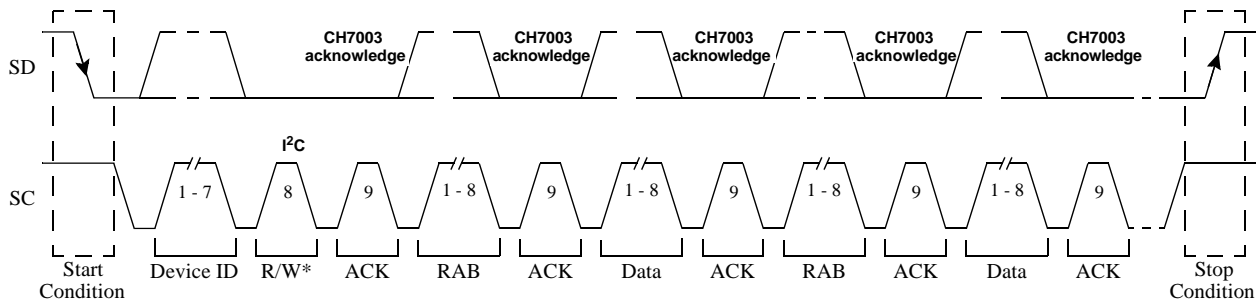

Figure 22: Alternating Write Cycles
**Figure 22** shows two consecutive alternating write cycles for AutoInc = 0 and R/W = 0. The byte of information, following the Register Address Byte (RAB), is the data to be written into the register specified by AR[5:0]. If AutoInc = 0, then another RAB is expected from the master device, followed by another data byte, and so on.